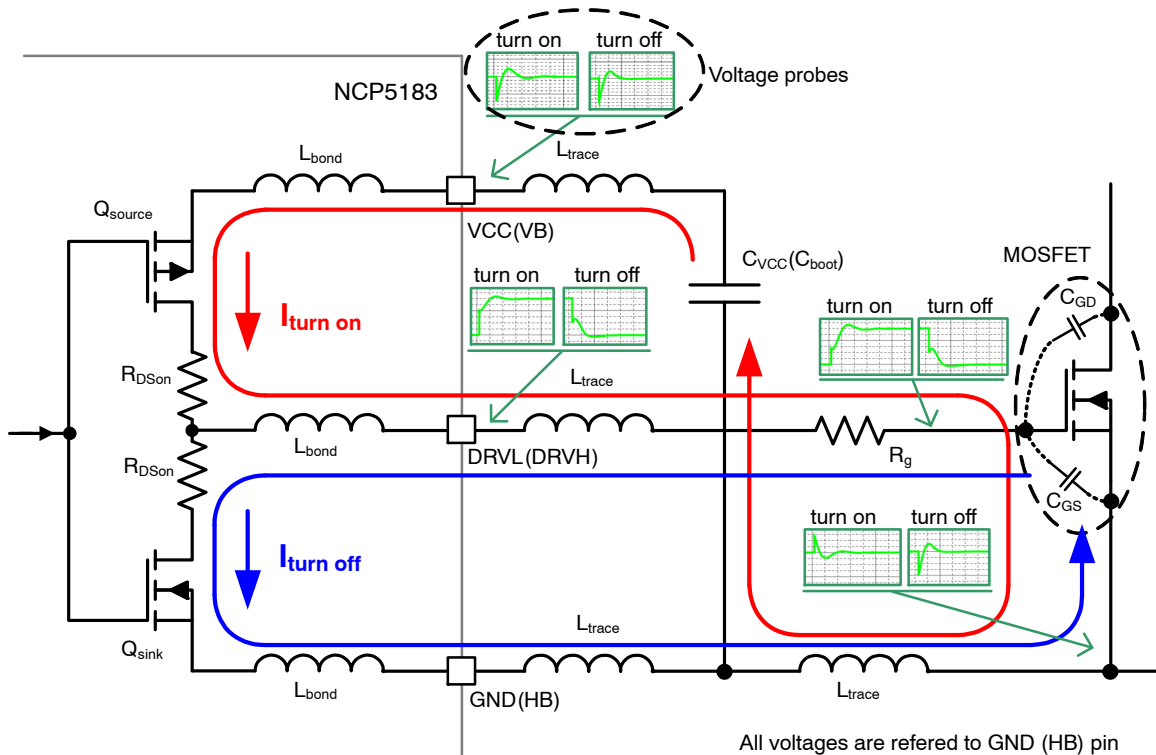

Figure 27. Equivalent Circuit of Power Switch Driver
A capacitor connected from VCC (VB) to GND (HB) terminal is source of energy for charging the gate terminal of an external MOSFET(s). For better understanding of this process see Figure 27 (all voltages are related to GND (HB) pin). When there is a request from internal logic to turn on the external MOSFET, then the Q_{source} is turned on. The current starts to flow from C_{VCC} (C_{boot}), through Q_{source} , gate resistor R_g to the gate terminal of the external MOSFET (depicted by red line). The current loop is closed from external MOSFET source terminal back to the C_{VCC} (C_{boot}) capacitor. After a while the C_{GS} capacitance is fully charged so no current flows this path. When the external MOSFET going to be turned off, the internal Q_{source} is turned off first
and after a short dead time Q_{sink} is turned on. Then C_{VCC} (C_{boot}) is not a source any more, the source of energy became the C_{GS} (and all capacitance connected to this terminal, like Muller capacitance). Now the current flows from gate terminal, through R_g resistor and Q_{sink} back to the MOSFET (depicted by blue line). In both cases (charging and discharging external MOSFET) there are several parasitic inductances in the path. All of them play a role during switching. In Figure 27 an influence of the inductances in some places is showed. On VCC (VB) pin a drop during turn on and turn off is observed. If too long an UVLO protection can be triggered and the driver can be turned off subsequently, which result in improper operation of the application.